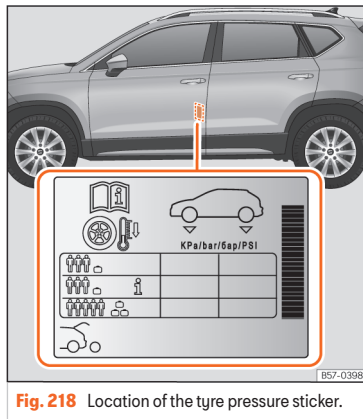

Fig. 218 Location of the tyre pressure sticker.
- Adjust tyre pressure to the load being carried by the vehicle »» **Fig. 218**.
The tyre pressure values are shown on the sticker located on the rear frame of the front left door »» Fig. 218.
The tyre pressure must be adjusted according to the load the vehicle is carrying. If the vehicle is going to be fully loaded, increase the tyre pressure to the maximum load value shown on the sticker »» Fig. 218.
In the case of a minimised temporary spare wheel (125/70 R16 or 125/70 R18) inflate to a pressure of 4,2 bar as indicated on the tyre pressure label »» Fig. 218.
Depending on the vehicle, tyre pressure can be adjusted to medium load to improve driving comfort [tyre pressure **i** »» Fig. 218]. When driving with comfort tyre pressure, fuel consumption may increase slightly.
- **The driver is responsible for ensuring that all of the vehicle tyres are correctly inflated to the right pressure. The recommended tyre pressure is indicated on the label »» Fig. 218.**
- **Tyre pressure should be as indicated on the label when the tyres are cold at all times »» Fig. 218.**